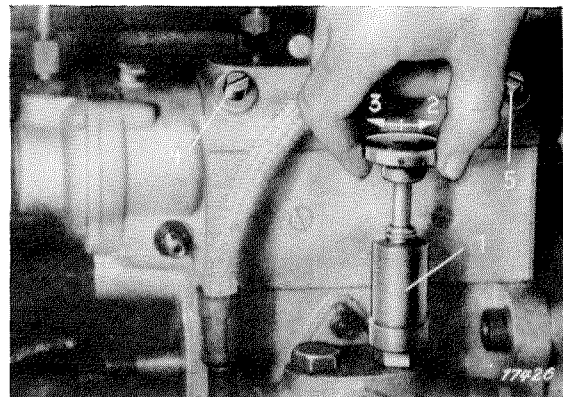

Figure 00-10/2 OM 636
Note: OM 621: the bleeder screws arranged hitherto laterally have been omitted and are now replaced by one bleeder screw (5) at the top of the injection pump, i.e. at the rear and of the suction space (see Figure 00-10/3).